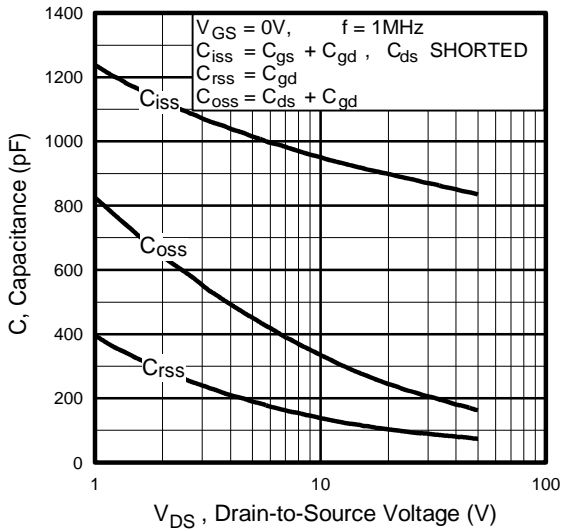

Fig 5. Typical Capacitance Vs. Drain-to-Source Voltage
| C_{rss} | Reverse Transfer Capacitance | — | 94 | — | | $f = 1.0MHz$, See Fig. 5 ⑦ |